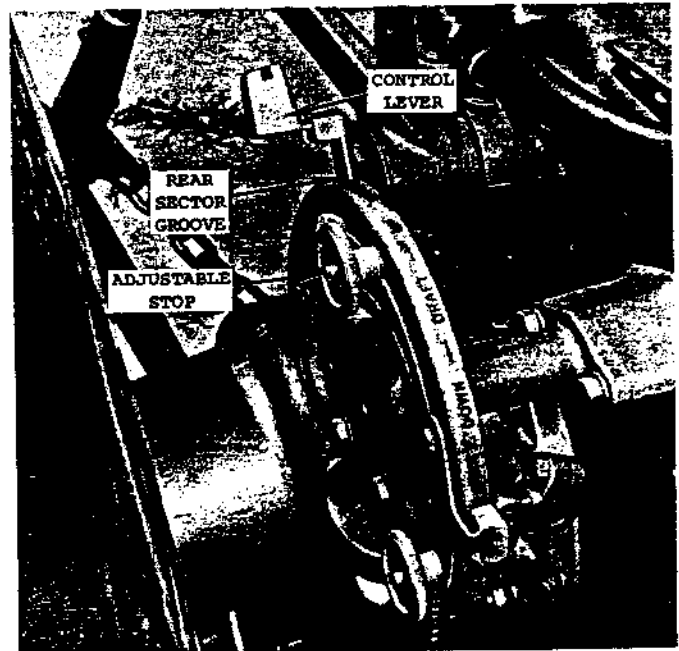

Fig. 13 — Hydraulic Control Quadrant — MF 130 Tractor
1. Position adjustable stop, Fig. 13, at arrow between sector grooves on quadrant. This is maximum lift position.
NOTE: The rear sector groove, Fig. 13, is the "Neutral" position for the control lever. At this position, oil will not leave or enter the hydraulic cylinder(s).